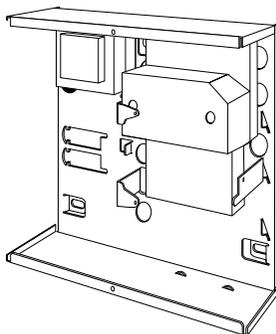

Figure 21. Fitting a Plug-by Communicator
2. Detach the main PCB from the support pillars in the control unit case, and lift the PCB carefully to the left. Fit the communicator between the PCB support pillars, making sure that the main PCB can fit back into position (see Figure 21).